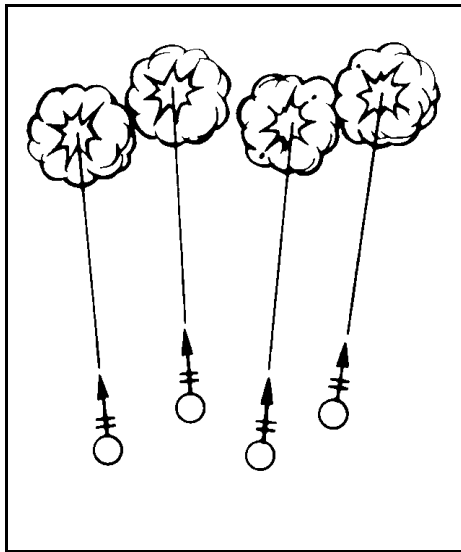

Figure 4-3. Open sheaf.
c. **Open Sheaf.** The open sheaf (Figure 4-3) is normally used to engage targets that are wider than a standard sheaf can cover. With the open sheaf, the distance between impacts of rounds from two or more mortars is half again the distance between the bursts of the rounds in a standard sheaf. Normally, 81-mm and 4.2-inch mortar rounds impact 40 meters apart, and 120-mm rounds impact 75 meters apart. Thus, in an open sheaf with 60-mm mortars, which impact 30 meters apart in a standard sheaf, rounds would impact 45 meters apart. All mortars fire different deflections for an open sheaf.